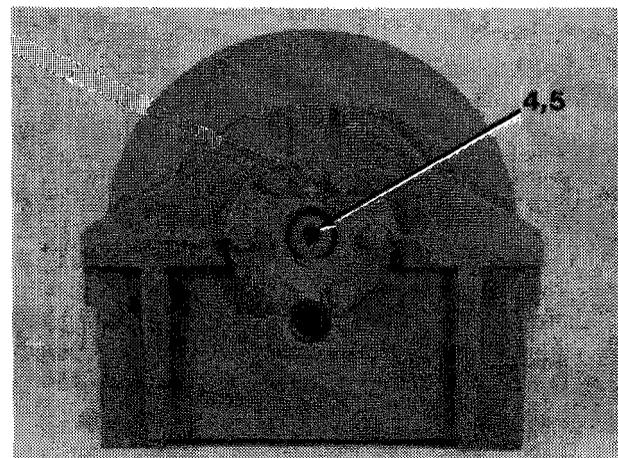

Figure 16-26
30. Install O-ring (5) and oil level plug (4, Figure 16-26).